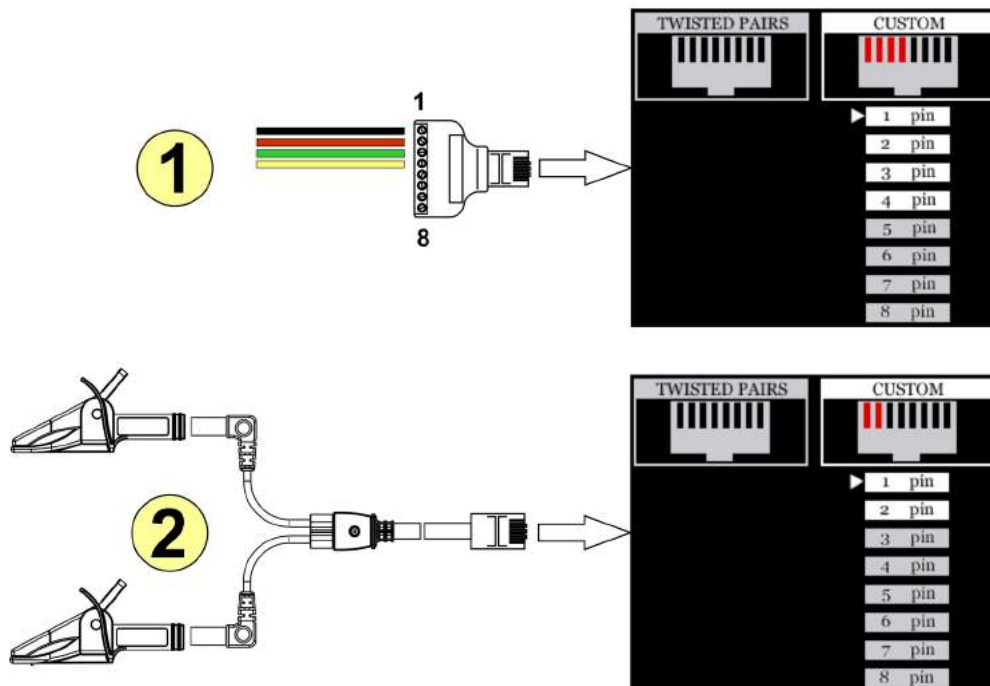

Fig.51
Fig. 51(1) illustrates the settings when a flat or circular cable is connected that consists of 'non-paired' wires (rather than twisted pairs) and is not equipped with any connectors. In this case the Adaptor (25, Fig.1) is needed for connection to the Electronic Switch of ST300. Cable wires can be connected to the Adaptor's contacts in an arbitrary way, starting with contact #1. For a 4-core cable such as shown in the figure, set "**CUSTOM**" for cable type in the "**CABLE SETTINGS**" menu, and **1,2,3,4** for the numbers of contacts connected to the socket of the Electronic Switch.
Fig. 51(2) illustrates the settings when connection to the Electronic Switch is made through the Test Cable (4, Fig.1) supplied with ST300. This cable is used for testing low-voltage lines through telephone junction boxes. The cable has an RJ45 plug (8P8C) and contacts #1 and #2 are engaged. In this case, in the "**CABLE SETTINGS**" menu, "**CUSTOM**" is to be set for cable type, and **1,2** will be the numbers of contacts in the socket of the Electronic Switch.